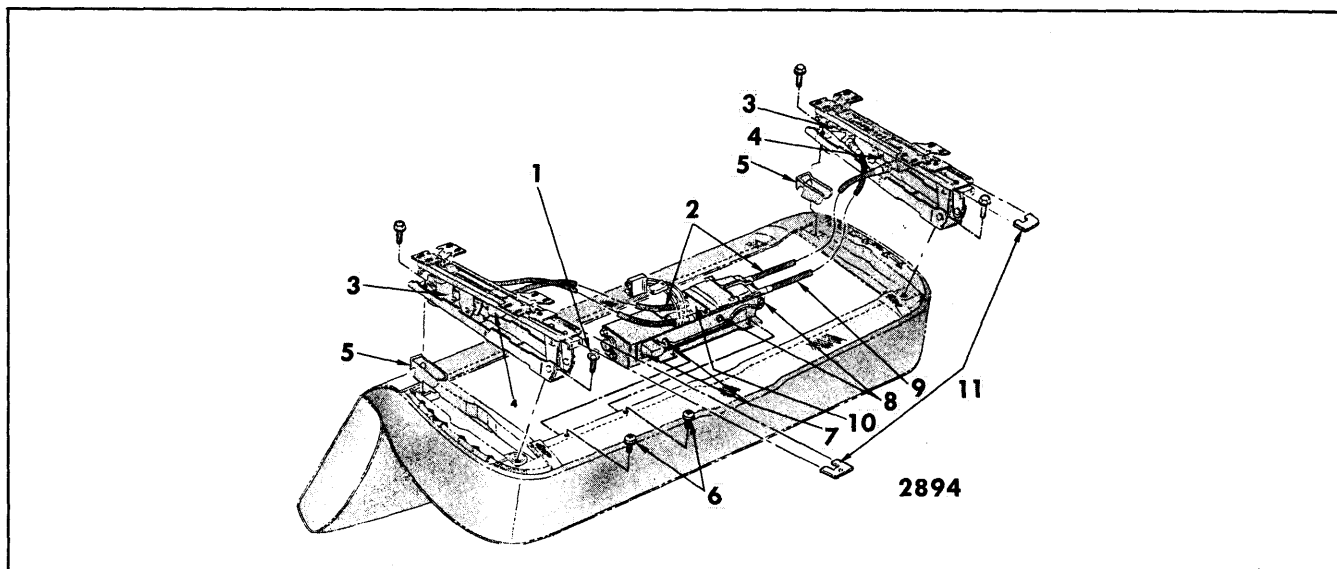

Fig. 15-8—Front Seat Assembly - Four-Way Tilt - Buick "B, C &amp; E" Styles
3. Detach power drive cables from gear nuts of adjuster to be removed (Figs. 15-8, 15-9, 15-10 and 15-11).
4. Remove adjuster-to-seat bottom frame front and rear attaching bolts and remove adjuster from seat assembly (Figs. 15-8, 15-9, 15-10 and 15-11).
5. To install seat adjuster assembly, reverse removal procedure. On seats with adjuster upper track covers, make sure track covers are in stalled between adjuster and seat frame (Figs. 15-8, 15-9, 15-10 and 15-11). Check operation